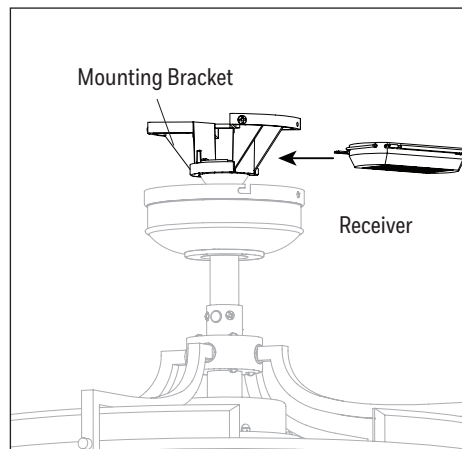

Figure 3.5
5. Insert the receiver in the mounting bracket with antenna end first and flat side facing up. **Note:** The receiver rests directly on the downrod (Figure 3.5).